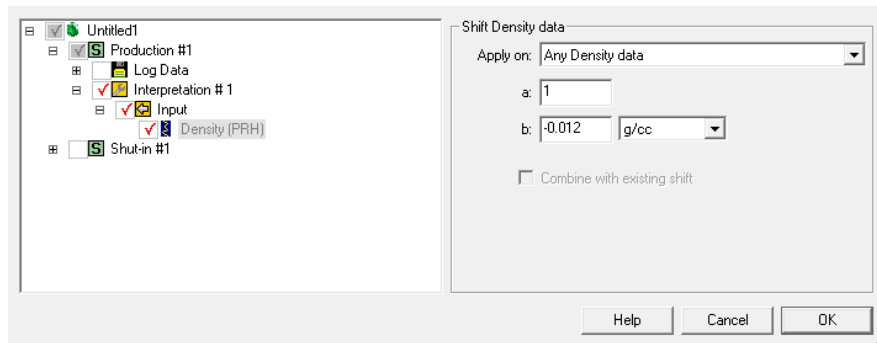

Fig. B02.21 • Shifting the production density
- Access the browser popup menu with a right-click inside the browser area and then choose Edit / create channel, $y \rightarrow a.y + b$. Leave $a = 1$, and enter $b = -0.012$ g/cc (Fig. B02.21).